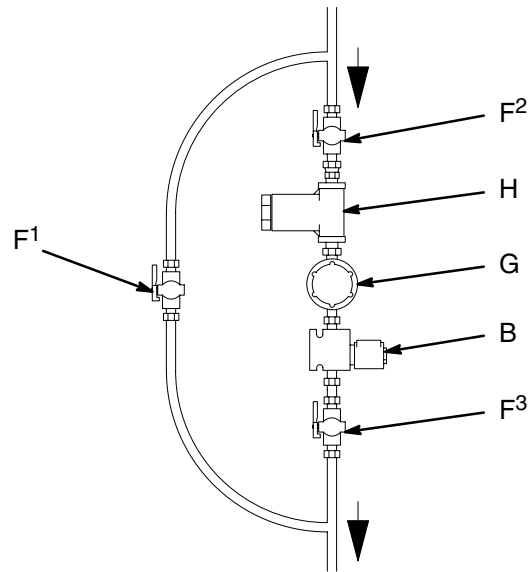

Fig. 23
In some cases, such as in mining applications, a design may be required that allows fluid to be dispensed regardless of the state of operation of the Horizon system. Fig. 23 represents the installation of a ball valve (F1) that can be used to redirect the fluid around the Horizon pulse meter (G) and fluid solenoid (B). This is also useful when it is necessary to remove the solenoid, meter or filter (H) for cleaning or service. Ball valves F2 and F3 can be used to isolate the meter and/or solenoid for service.